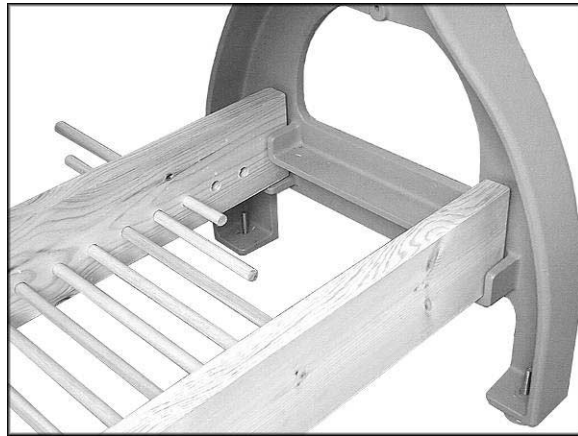

Figure 12
Shelf Style 3: (Figure 12)
This is a basket-style shelf consisting of two 2x6's and dowel rods. The advantage of this design is that most wood chips will fall through the shelf instead of accumulating on it. The instructions below are for building the shelf shown in Figure 12.
6. Insert the dowel rods through the holes in the rear 2x6, as shown in Figure 12.